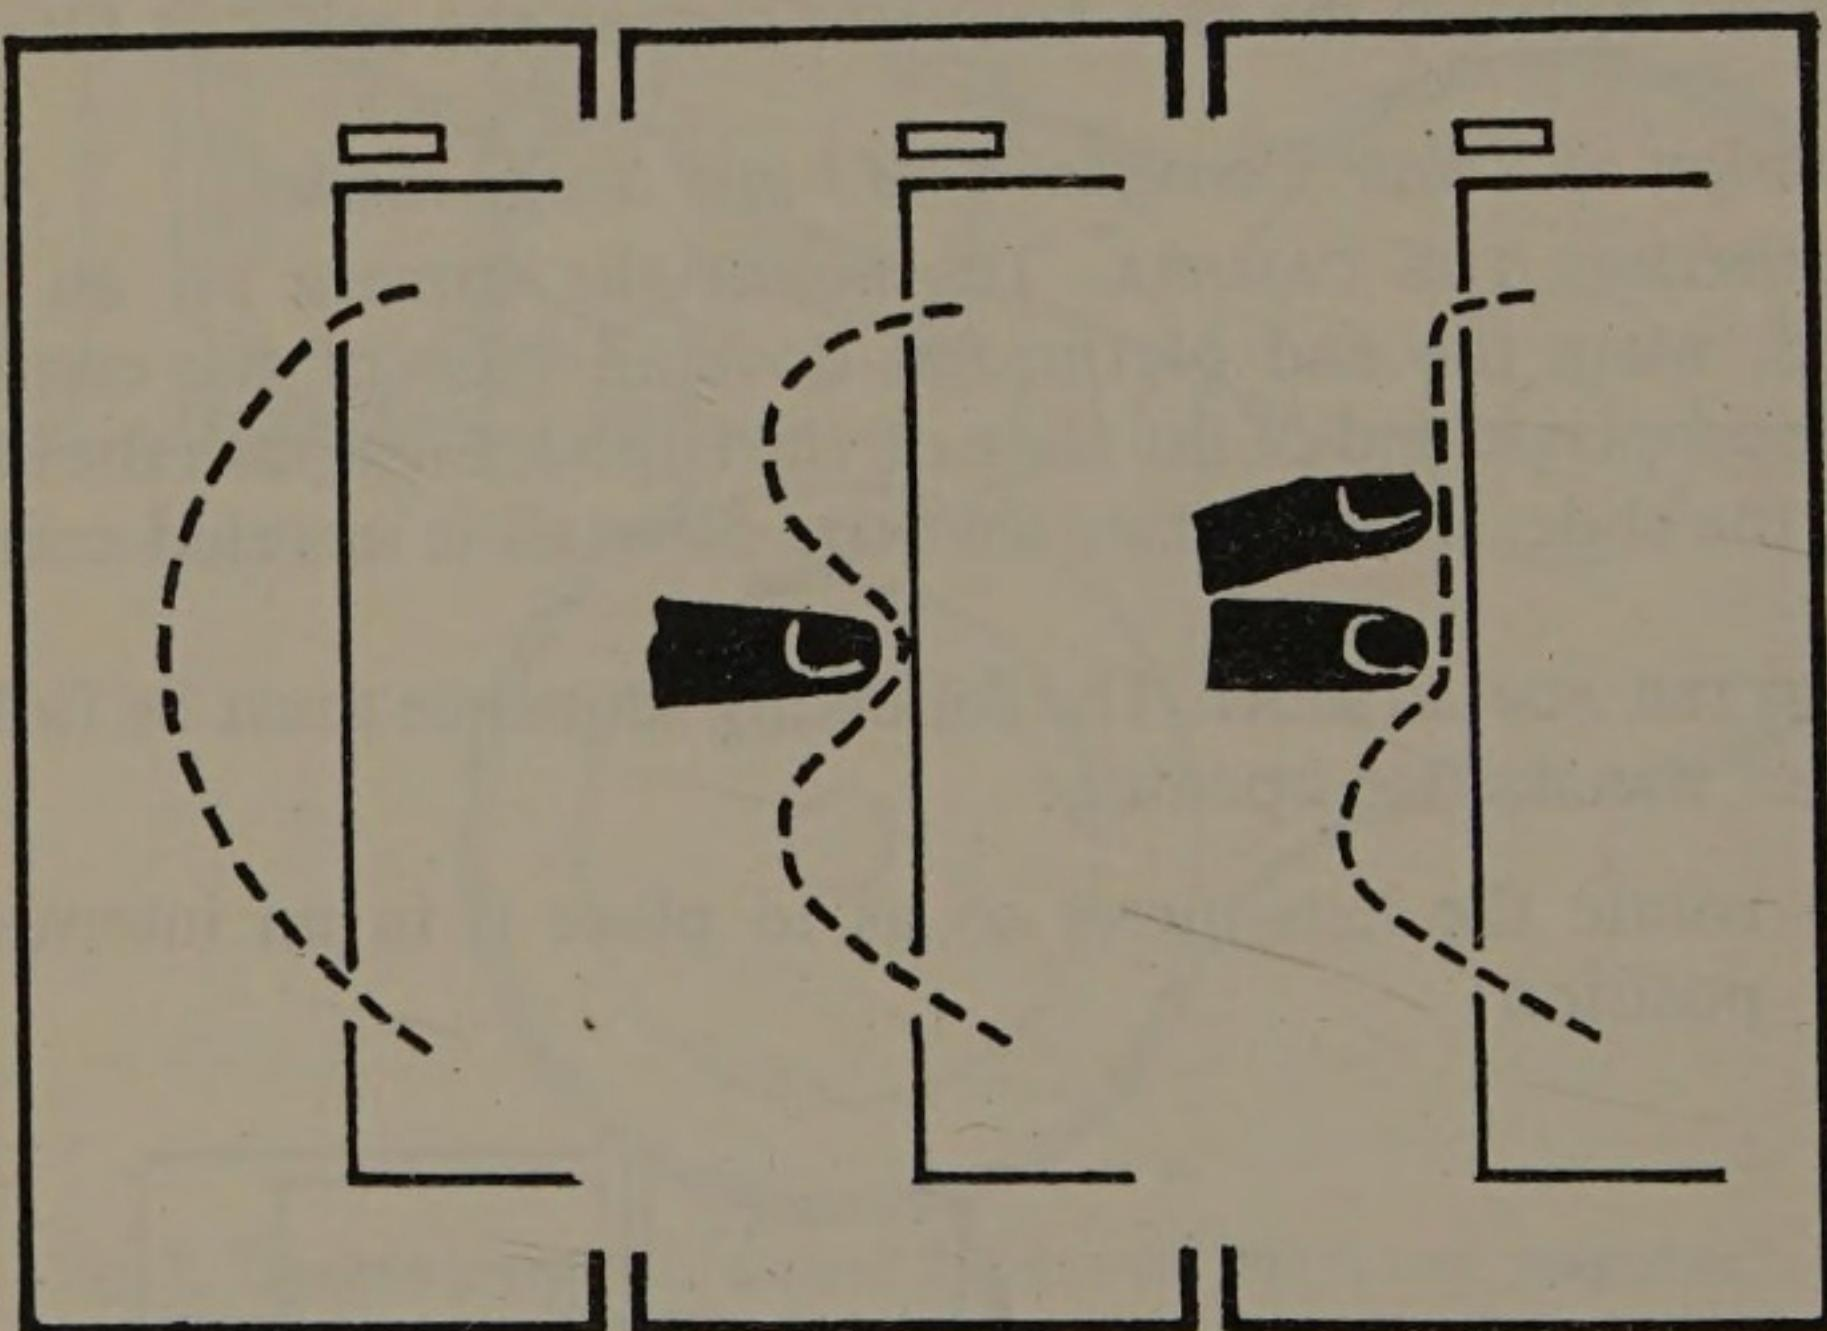

Fig. 11. Method of forming internal magazine film loops and flattening film against magazine plate.
- (vi) thread the film above the sprocket so that it goes under roller (A) and under the pressure rollers, then meshes with the sprocket teeth; next take it over the upper roller and close the pressure rollers;
- (vii) adjust the external film loop by inserting a finger into it (Fig. 11), and pressing down the film until it touches the magazine attachment knob;
(xiv) the extended loop must now be pushed into the camera; this is done by pressing the rear of the loop with the finger, and flattening first one end and then the other with the other hand; when doing this, push the film through the light-trap slots so as to form two internal magazine loops (see Fig. 11); when the film is flat against the magazine base plate, the magazine is ready to attach to the camera.